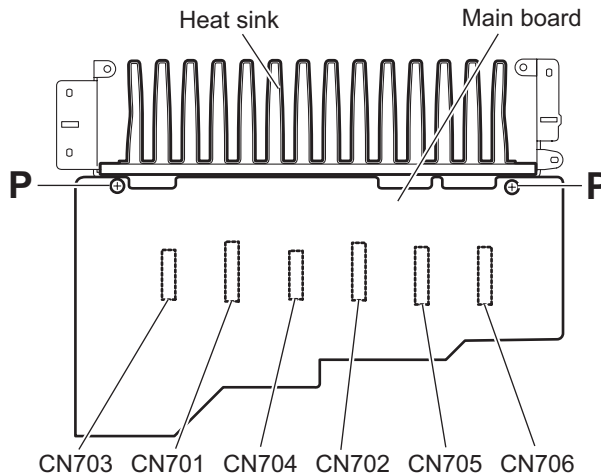

Fig.10
3.9 Removing the heat sink (See Figs.10 and 11)
- (1) From the reverse side of the main board, remove the two screws **P** attaching the main board to the heat sink. (See Fig.10)
- (2) Disconnect the connector (CN701 to CN706) on the main board, remove the main board. (See Fig.10)
3.10 Removing the center board, front boards (L/R), surround boards (L/R) and surround back board (See Figs.10 and 12)
- (2) Disconnect the connectors (CN701 to CN706) on the main board, remove the main board. (See Fig.10)